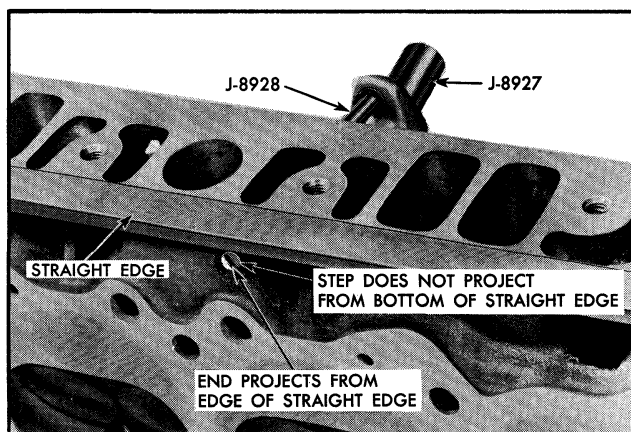
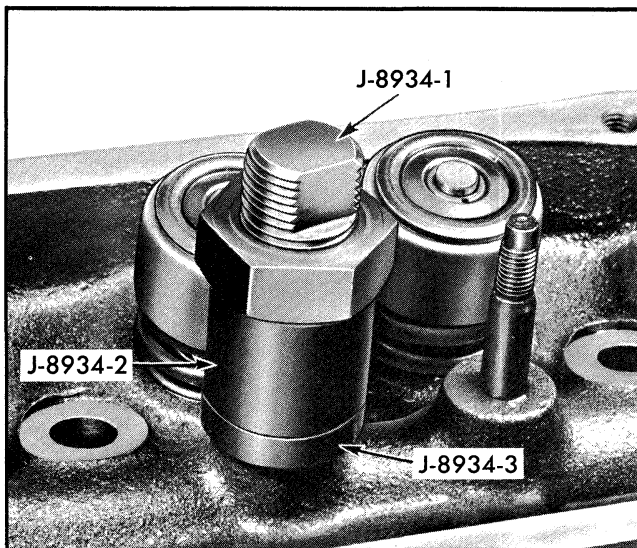

Fig. 6-104 Position of Gauge J-8928
Fig. 6-106 Tool J-8934 Positioned to Remove Rocker Arm Stud
When installing new head, transfer all serviceable parts to new head using new seals on intake and exhaust manifold valve stems, and new exhaust manifold gasket. Install new intake manifold gasket plastic retainers. Clamp straight edge into position as shown in Fig. 6-104 and check rocker arm position with valve train gauge J-8928.
6. Thread 7/8" standard nut on stud remover and turn nut until rocker arm stud is out of cylinder head (Fig. 6-106).
12. With valve seated, slowly press rocker arm stud into cylinder head (Fig. 6-106) until gauge projects about midway between the end of the gauge and the step with respect to the straight edge as shown in Fig. 6-104.